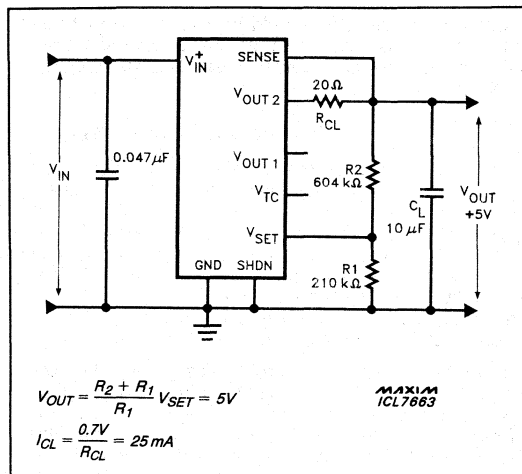

Figure 3. Maxim's Application of ICL7663 (Positive Regulator, Current Limit).
**Note 4:** This output has a positive temperature coefficient. Using it in combination with the inverting input of the regulator at  $V_{SET}$ , a negative coefficient results in the output voltage. See Figure 3 for details. Pin will not source current.
Figure 3 shows a typical positive voltage regulator using the ICL7663. The input voltage,  $V_{\text{IN}}$ , can range from a maximum of 16V to a minimum of the output voltage plus the input-output differential. The output voltage is set by the resistors  $R_2$  and  $R_1$ , and the output current limit is set by  $R_{\text{CL}}$ . The  $0.047\mu\text{F}$  capacitor on the input limits the rate-of-rise during power-up and also removes some of the high frequency noise on the input voltage. In Figure 3, the logic shutdown is not used and is therefore grounded.  $V_{\text{OUT2}}$  should be connected directly to SENSE if current limiting is not used.
The Maxim ICL7663A  $V_{SET}$  voltage is guaranteed to be  $1.29V \pm 15mV$ , eliminating the need for trim pots in most cases. Specifically, using the Maxim ICL7663A and the resistor values shown in Figure 3, the initial voltage will be within  $\pm 2.7\%$  of 5V, assuming  $\pm 1\%$  tolerance resistors. The output voltage will remain within  $5V \pm 5\%$ , over  $0-70^\circ C$ . This tolerance includes the effect of ICL7663A  $V_{SET}$  error, the  $\pm 1\%$  initial tolerance on both resistors, and the resistor ratio temperature coefficient of nearly 200 ppm/ $^\circ C$ . Since the resistor ratio temperature coefficient is generally much lower than the absolute temperature coefficient, 100 or 200 ppm resistors can be used, even over the full temperature range while still allowing the output to stay within 4.75V–5.25V.
The circuit in Figure 3 will limit the output current to approximately 35mA. Current limiting will start, when the output current exceeds 35mA and the voltage drop across the 20 $\Omega$   $R_{CL}$  is 500mV. For other current limits the value of  $R_{CL}$  can be calculated from the formula: